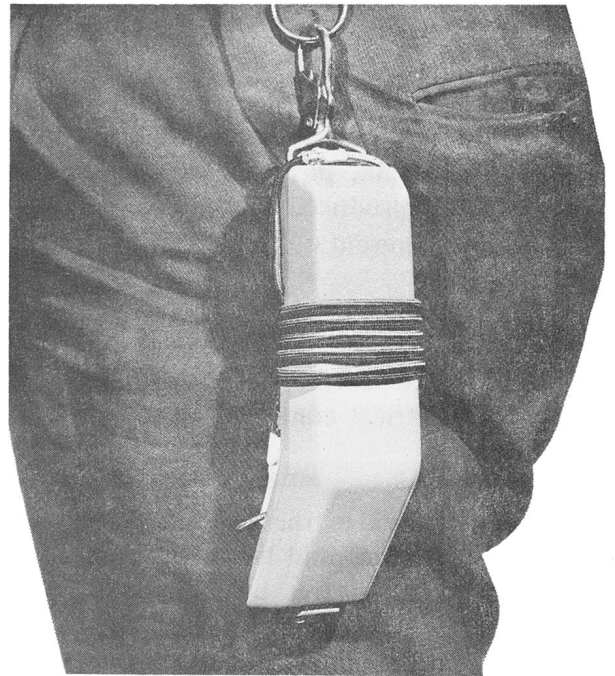

Fig. 6 — Wearing of Handset on Tool Belts
- 2.09 All handsets are equipped with a snap hook to allow the handset to be carried on a tool belt. The hook is positioned in such a manner as to allow the handset to hang and follow the contour of the body, thus affording protection to the face of the handset as shown in Fig. 6.